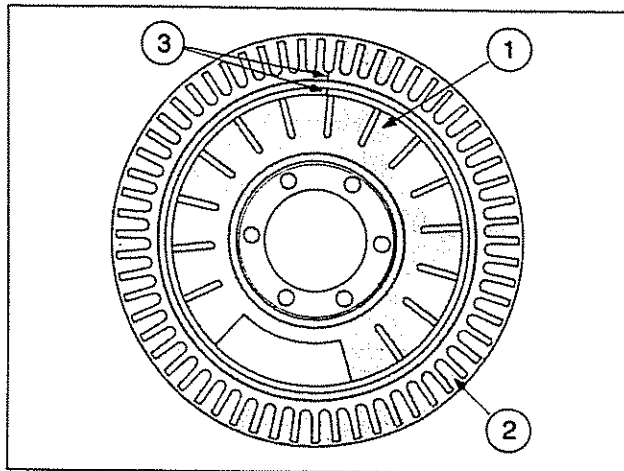

Fig. 2-67, (OM1066L). Vibration damper alignment marks
The damper hub (1, Fig. 2-67) and the inertia member (2) are stamped with an index mark (3) to permit the detection of movement between the two components.